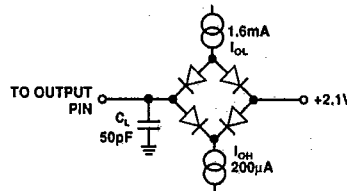

Figure 1. Load Circuit for Access Time
- ³ t_6 and t_{17} are measured with the load circuits of Figure 1 and defined as the time required for an output to cross 0.8 V or 2.4 V.